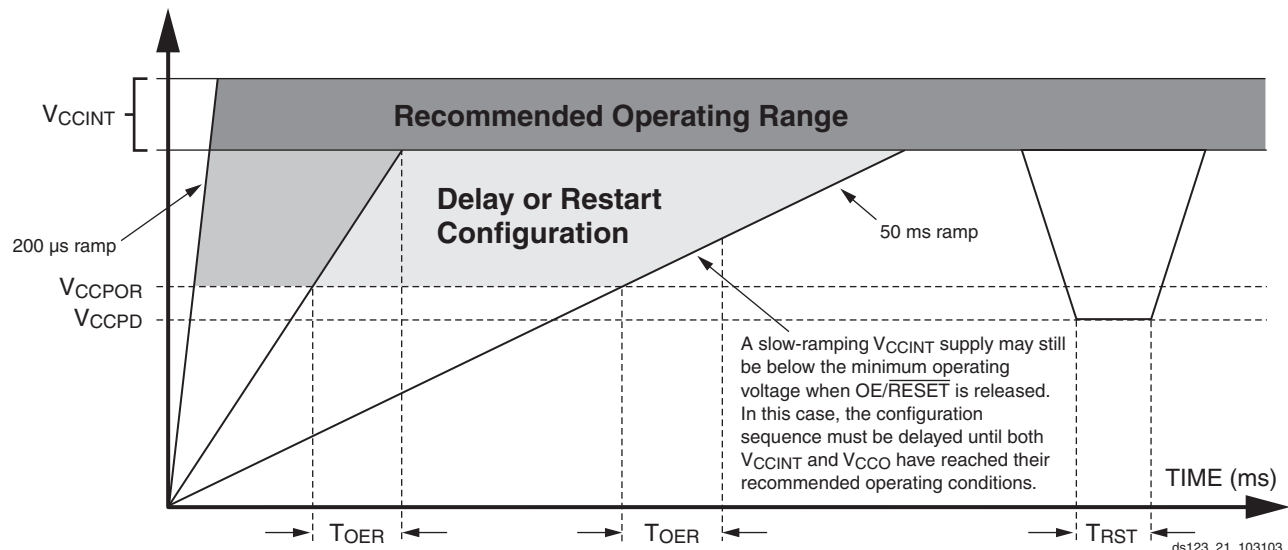

Figure 14: Platform Flash PROM Power-Up Requirements
below the power-down threshold (V_{CCPD}), the PROM resets and $\overline{OE}/\overline{RESET}$ is again held Low until the after the POR threshold is reached. $\overline{OE}/\overline{RESET}$ polarity is not programmable. These power-up requirements are shown graphically in Figure 14.
- At power up, the device requires the V_{CCINT} power supply to monotonically rise to the nominal operating voltage within the specified T_{VCC} rise time. If the power supply cannot meet this requirement, then the device might not perform power-on-reset properly. See Figure 14, page 25.